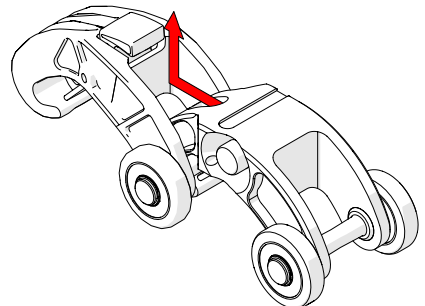

Fig. 60 - Slide Dovetail QuickLink forward and lift
2. While pressing the red button, slide the Dovetail QuickLink forward and up, clearing the hook of the Dovetail QuickLink from the 2nd QuickLink's axle (Fig. 60).